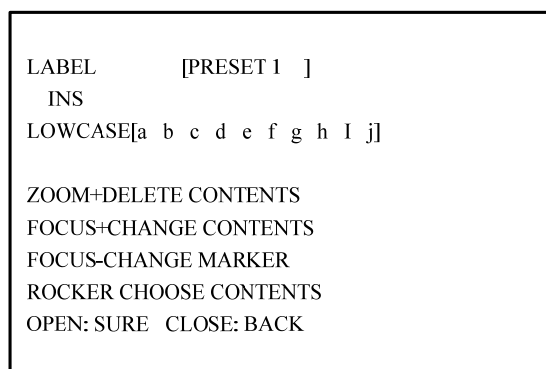

Figure 3.3.15
- b. Press the FOCUS+ button to switch input characters among numbers, lowercases, capitals and symbols. Refer to Figure 3.3.15. Move the Left and Right buttons to position the cursor beside a character and press FOCUS+ to enter selection.